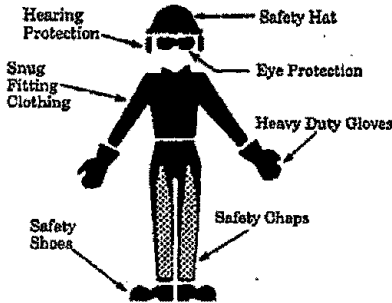

Figure 4
1. Wear protective gear, Figure 4. Always use steel-toed safety footwear with non-slip soles; snug-fitting clothing; heavy-duty, non-slip gloves; eye protection such as non-fogging, vented goggles or face screen; an approved safety hard hat; and sound barriers—ear plugs or mufflers to protect your hearing. Regular users should have hearing checked regularly as chain saw noise can damage hearing.